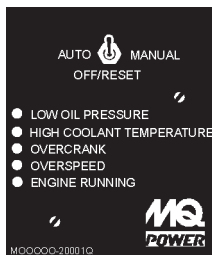

Figure 43. Engine Running LED (ON)
- Verify that the Engine Running status LED on the MPEC unit (Figure 43) in ON (lit) after the engine has been started